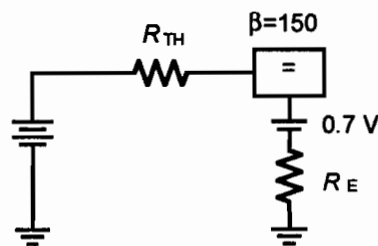

Figure 15.2
5. Now you have three sets of data from your circuit. Solve the circuit for the same parameters as those measured. Calculate the Thevenin values of the voltage divider— $R_{TH}$  and  $V_{TH}$ . Enter these values in the blanks provided below and in the beta box model in Figure 15.2. Assume a beta of 150, and, using the beta box model, calculate emitter current, collector voltage, base voltage, and emitter voltage. Also enter these results in the appropriate blanks provided below.